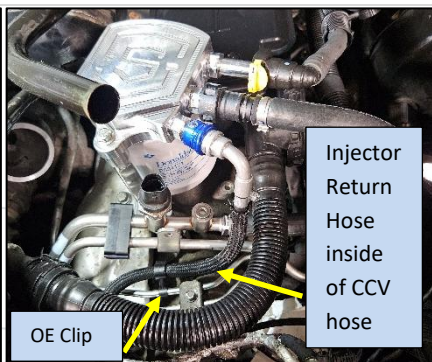

Figure 9: Injector Return Hose Routing
25. Completed installation should look like Figure 16 for 2017-2026 model years and Figure 9 for 2011-2016 model years (Fuel tank feed fitting length is the only difference)